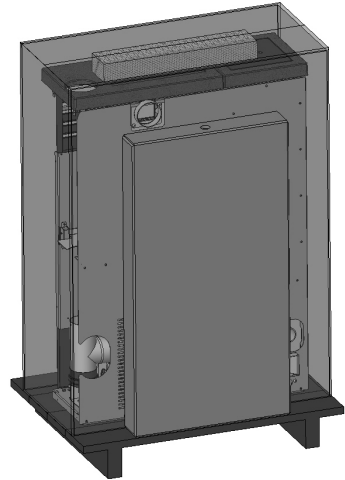

FIGURE 2 - STOVE PACKAGING + SIDE AND FRONT PANELS
- The second contains the three painted metal panels (two sides + 1 front). The cardboard with the sides is packed together with the stove package (fig. 2).